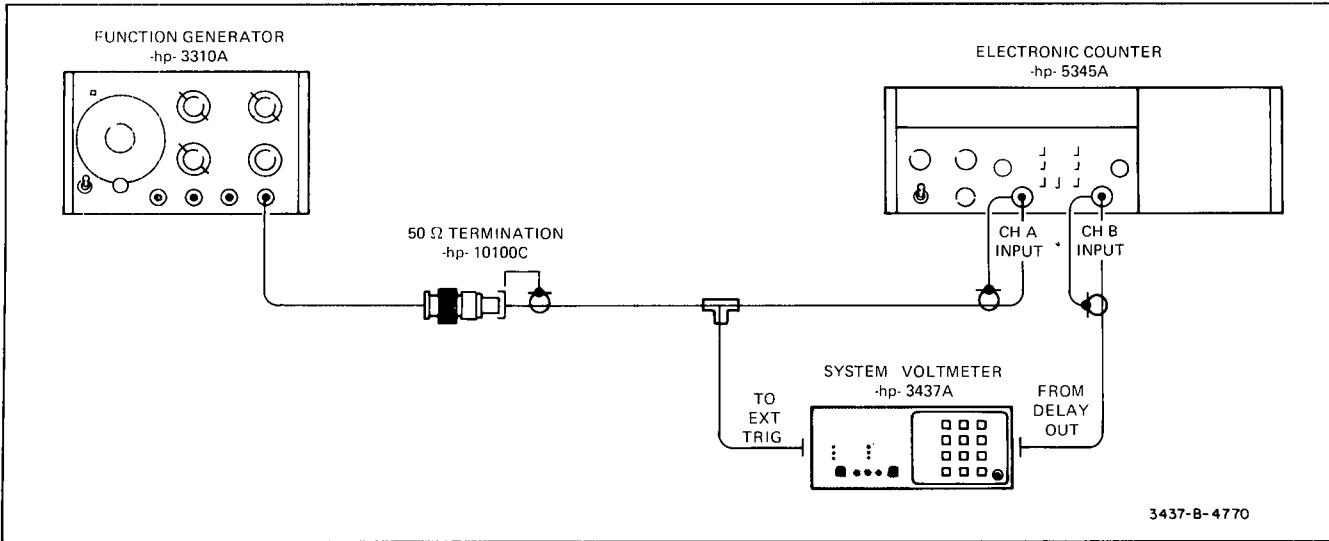

Figure 5-6. Delay Accuracy/Jitter Test Set-Up.
- a. Connect the equipment as illustrated in Figure 5-6.